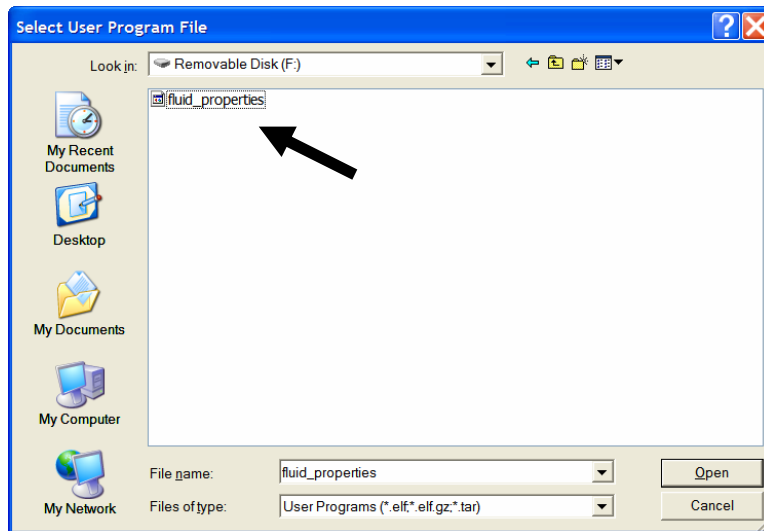

Figure 5. Select User Program File
5. Click **Browse** in the Download User Program File frame. The Select User Program File screen displays (see Figure 5).
6. Select the path and user program file to download from the CD-ROM. (Program files are typically located in the Program Files folder on the CD-ROM.) As Figure 5 shows, the screen lists all valid user program files with the .TAR extension: